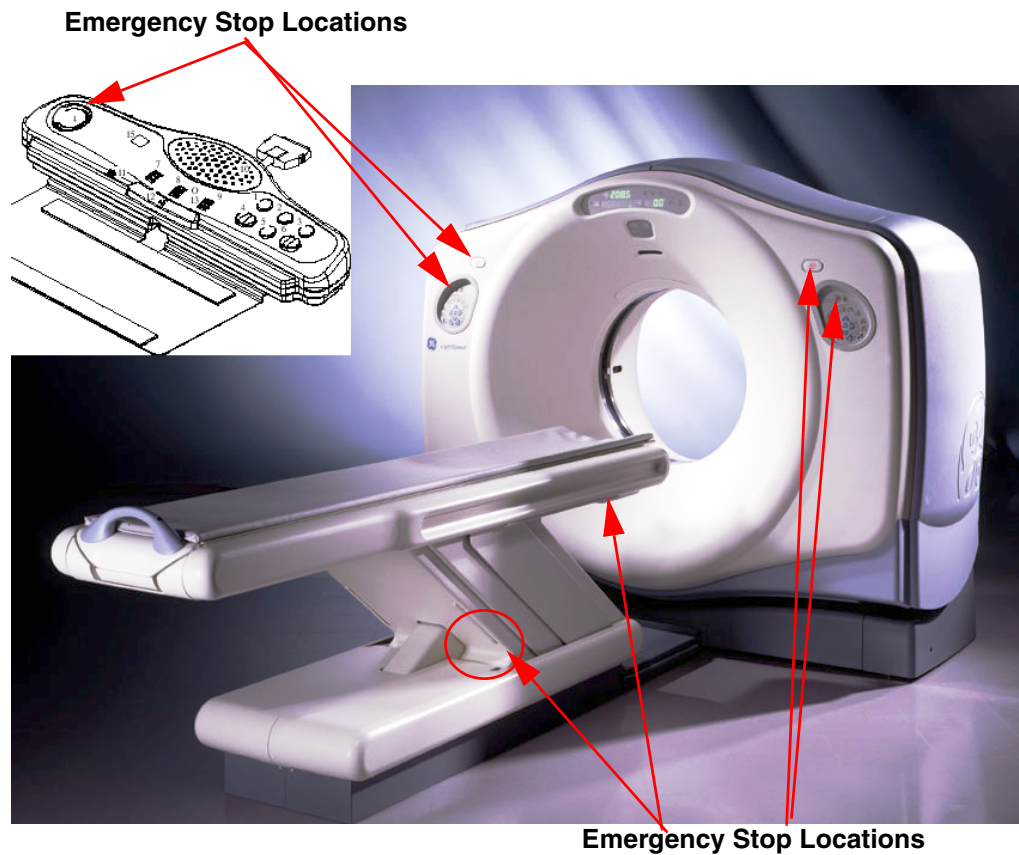

Figure 5-6 Emergency Stop button locations
- Note: Emergency Stop buttons are located on the front and rear of the gantry (eight in all). They are also located on both sides of the table base (four in all) and one on the SCIM (see Figure 5-6).